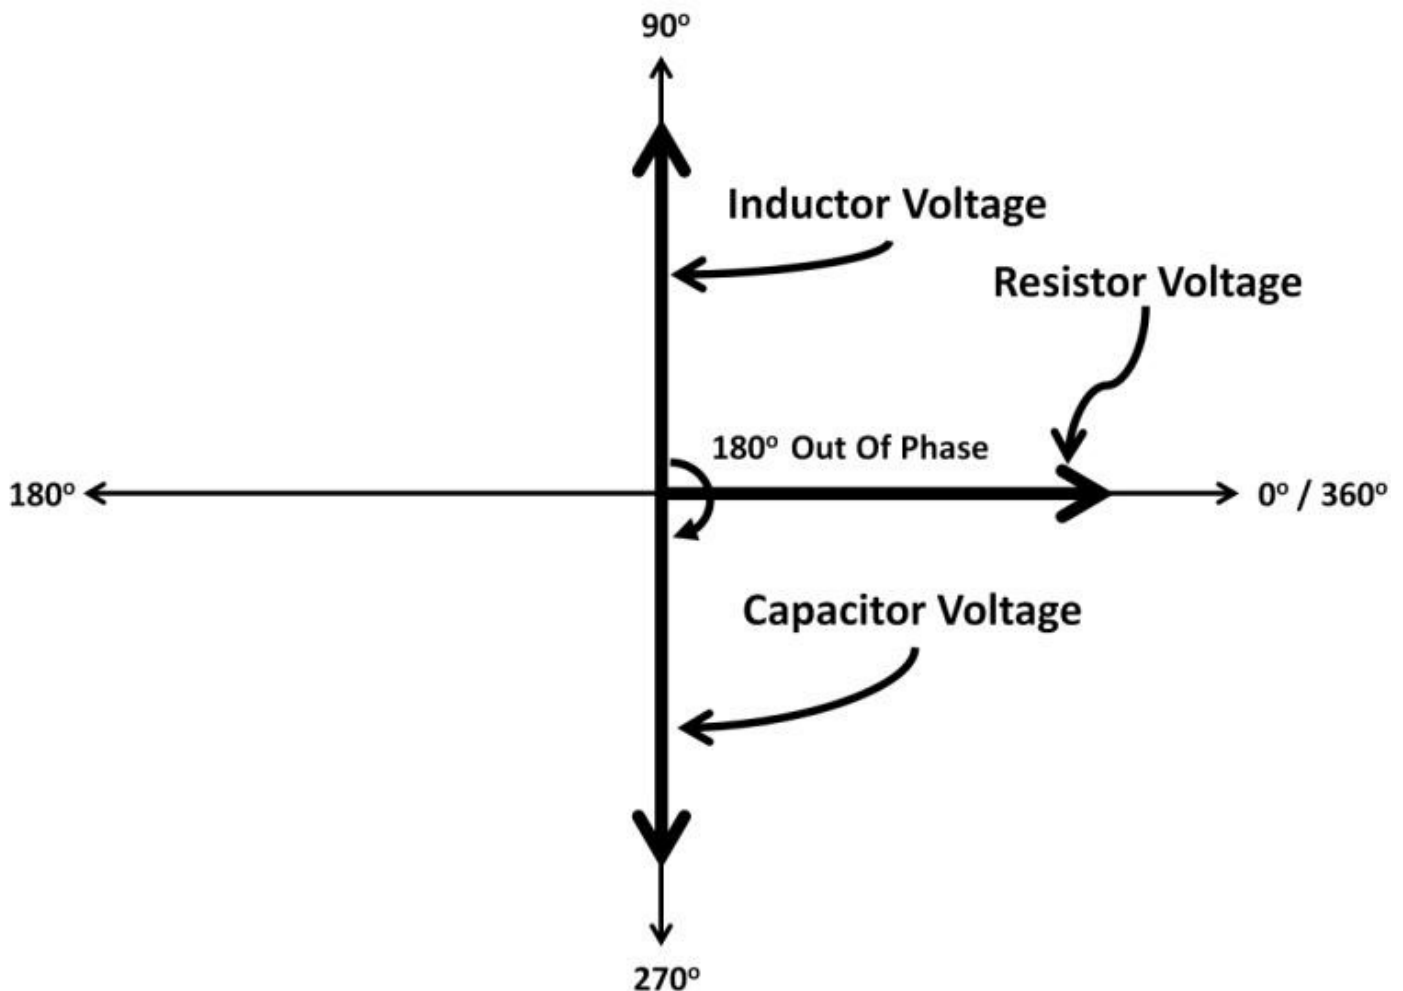

Figure 3.52: Inductor voltage leads capacitor voltage
All currents in a series circuit are in phase. Capacitor voltage lags its current by 90 degrees (ICE) while inductor voltage leads its current by 90 degrees (ELI). This results in inductor voltage leading capacitor voltage by 180 degrees. Using the same AC principles, voltage, current, and phase information can be extracted. In figure 3.52, the vector diagram shows inductor voltage (VL) is leading capacitor voltage (VC) by 180 degrees. The resistor voltage is at zero degree as the reference voltage. VL is standing upward in the vector diagram while VC is pulling downward due to the 180-degree phase difference. There is a net voltage sum depending upon the XL and XC impedance sizes. This series circuit only has one current going through all three components. If the C and L were designed to have the same impedances, the resulting circuit is purely resistive, i.e., no phase shift between voltage and current. The net VL and VC voltage yields zero voltage. This leads to maximum current flowing in the circuit with minimum impedance. This particular frequency is called resonant frequency. Frequency affects both XL and Xc. L C reactance is heavily controlled by frequency. Keep in mind, however, the non-ideal R, L, and C nature could become factor in the RLC circuit. We can derive resonant frequency using figure 3.52: **Vout = 0** when XL and XC cancel each other out: **XL = Xc** or **XL - Xc = 0**. Maximum current occurs when **XL - Xc = 0**, i.e., minimum impedances. To look for the resonant frequency, we simply apply XL = XC then solve for resonant frequency, f: